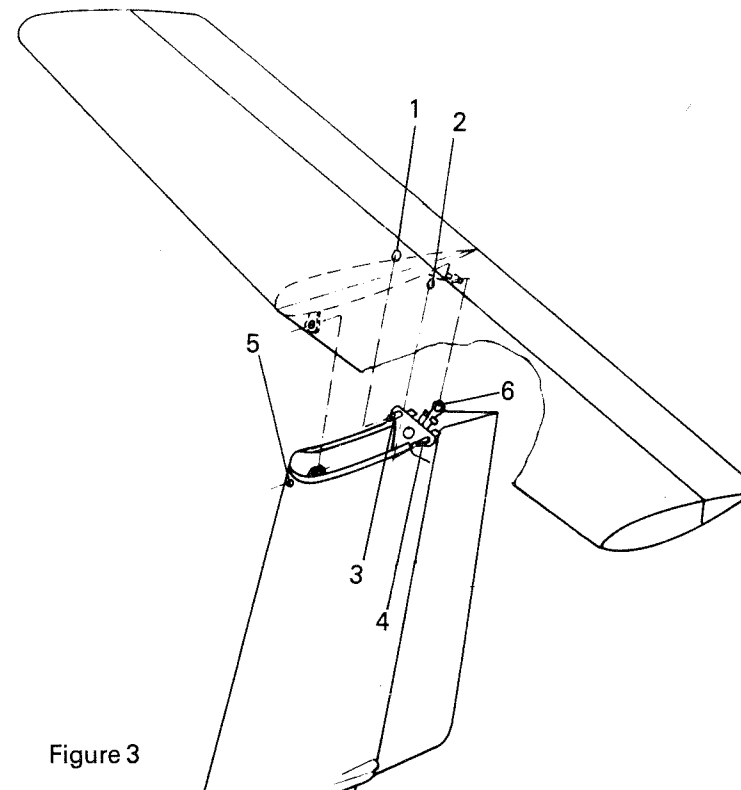

Figure 3
- Insert the right-hand wing ensuring that the fuselage bevel pins (1) and (2) are in the seats (4) and (5).
- Insert the left-hand wing in the same way and watch that the bevel pins (6) and (7) go correctly into their seats. Draw the wings together with the wing assembly tool and install the main wing pin and secure it using a Fokker-pin. It is necessary to upload the wing tips when using the assembly tool.
- Connect aileron and flap control rods by installation of pip-pins (8) and (9). Close the inspection opening (10) on the top of the fuselage.
1.3. Empennage assembly (Figure 3)